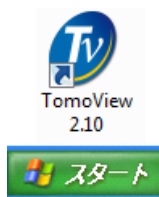

Figure 9-10 Starting TomoView
3. Start TomoView by double-clicking its icon (see Figure 9-10 on page 444).